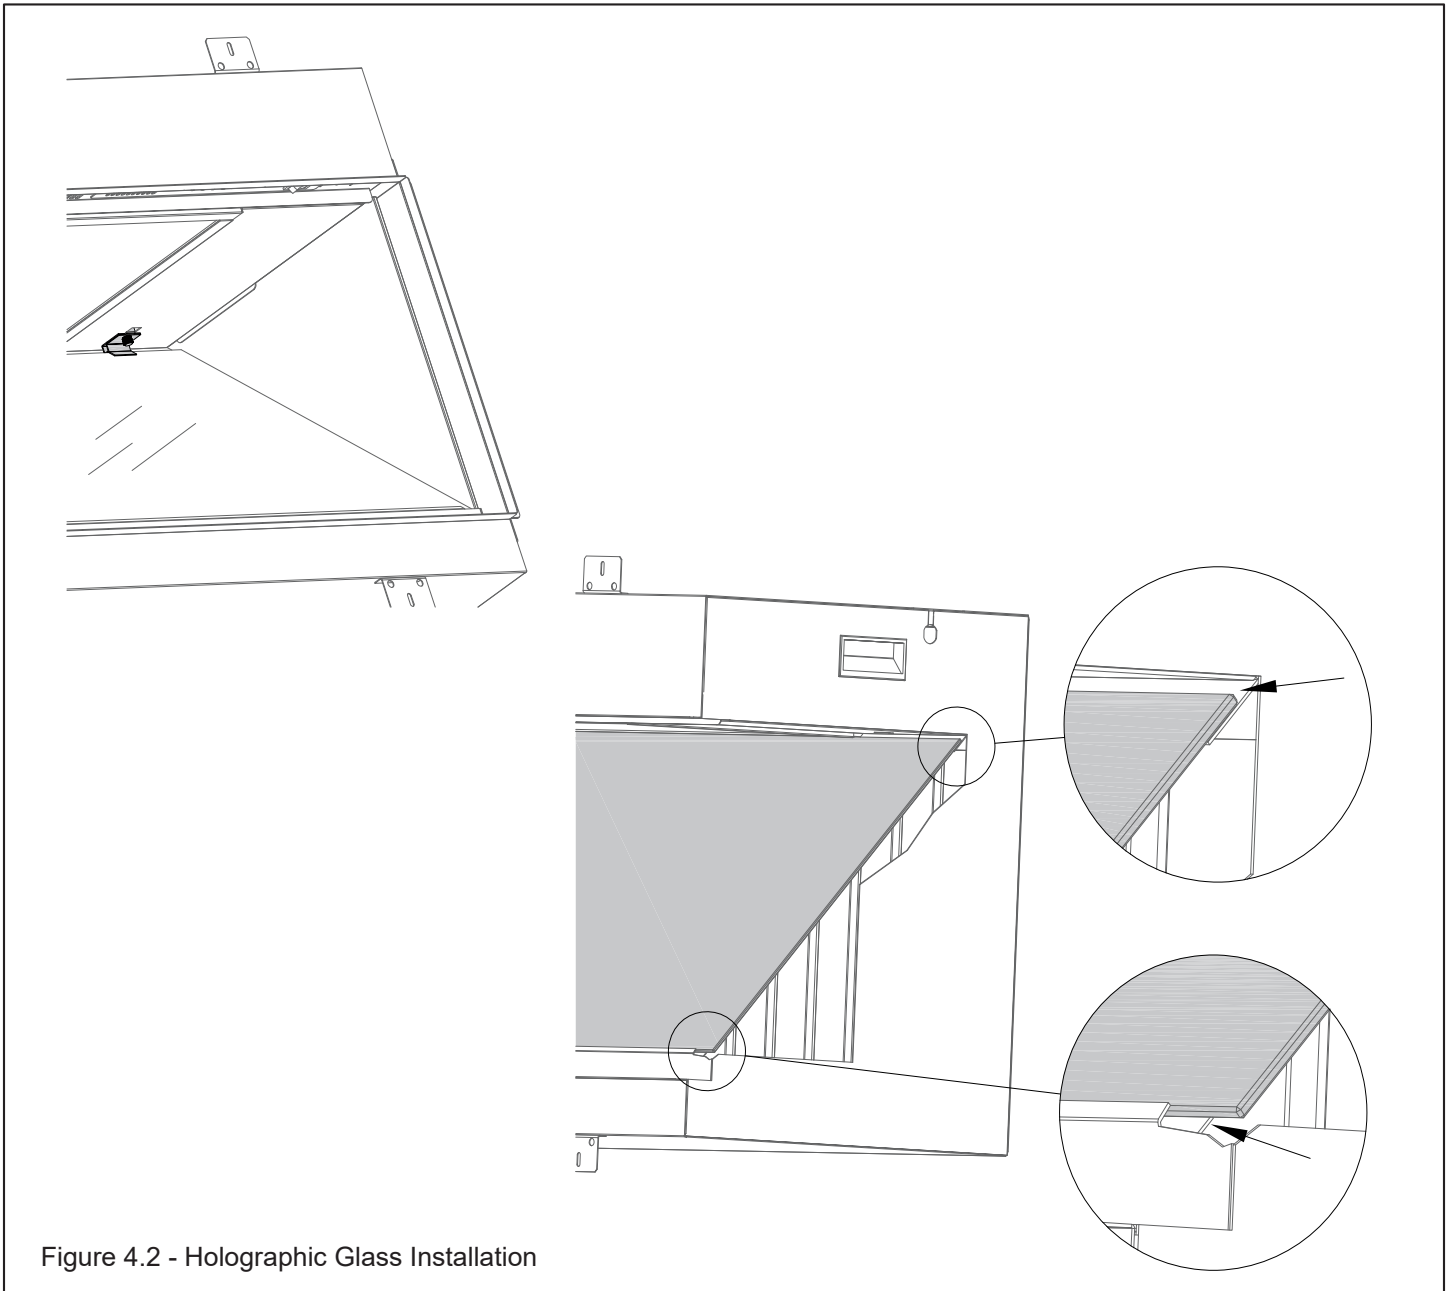

Figure 4.2 - Holographic Glass Installation
2. Attach the provided glass suction cup to the holographic glass pane. Remove the (2) glass panel clips with one clip in each top corner. See Figure 4.2.